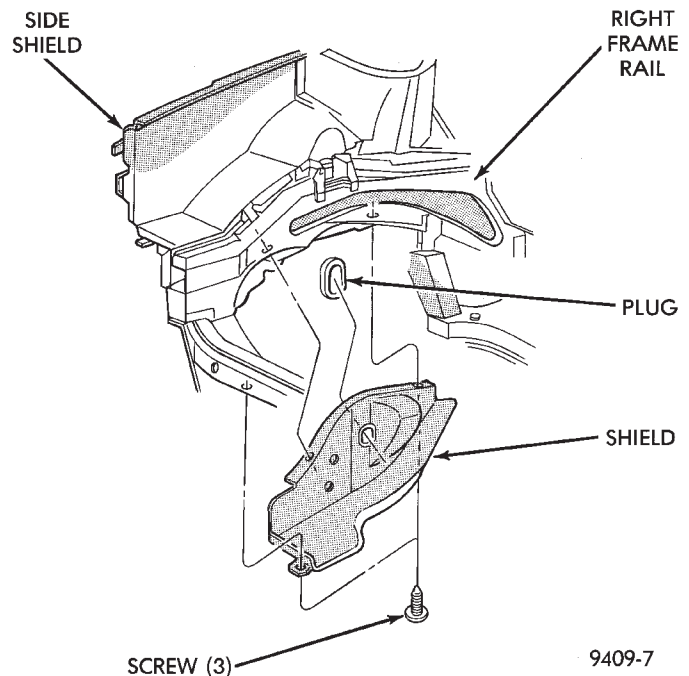

Fig. 33 Right Inner Splash Shield
- (1) Remove accessory drive belts. Refer to Group 7, Cooling System for procedure outlined in that section.
- (2) Raise vehicle on a hoist and remove right inner splash shield (Fig. 33).